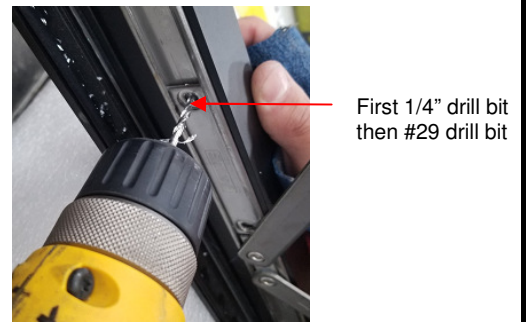

Figure 3:
3. With the adjustable opening stop at the desired location drill using a 1/4" drill bit until the drill is through THE 4-BAR HINGE ONLY (Figure 3). Clean out any shavings that may have occurred during the drilling process.
4. Using a #29 drill bit, drill through the outer wall of the Awning / Hopper window frame (Figure 3). Ensure that only the outer wall is penetrated.